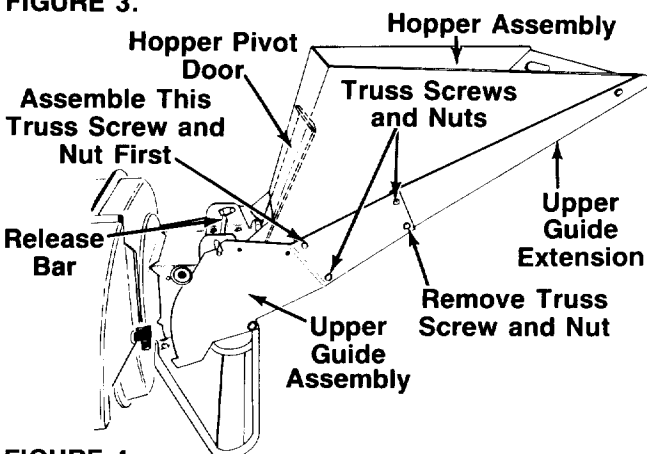

FIGURE 4.
Your chipper-shredder has been shipped with the upper guide extension attached to the hopper assembly. See figure 4. Attach the hopper assembly to the upper guide assembly as follows. Be certain to place heads of all truss machine screws **inside** of hopper assembly.
- Remove one truss machine screw and nut from each side of hopper assembly as shown in figure 4. **Push hopper pivot door down inside lower part of hopper** as you place hopper assembly (both pieces) **inside** upper guide assembly. Replace truss screws and nuts just removed, using the front upper hole in assembly as shown in figure 4, one on each side. Tighten finger tight only.